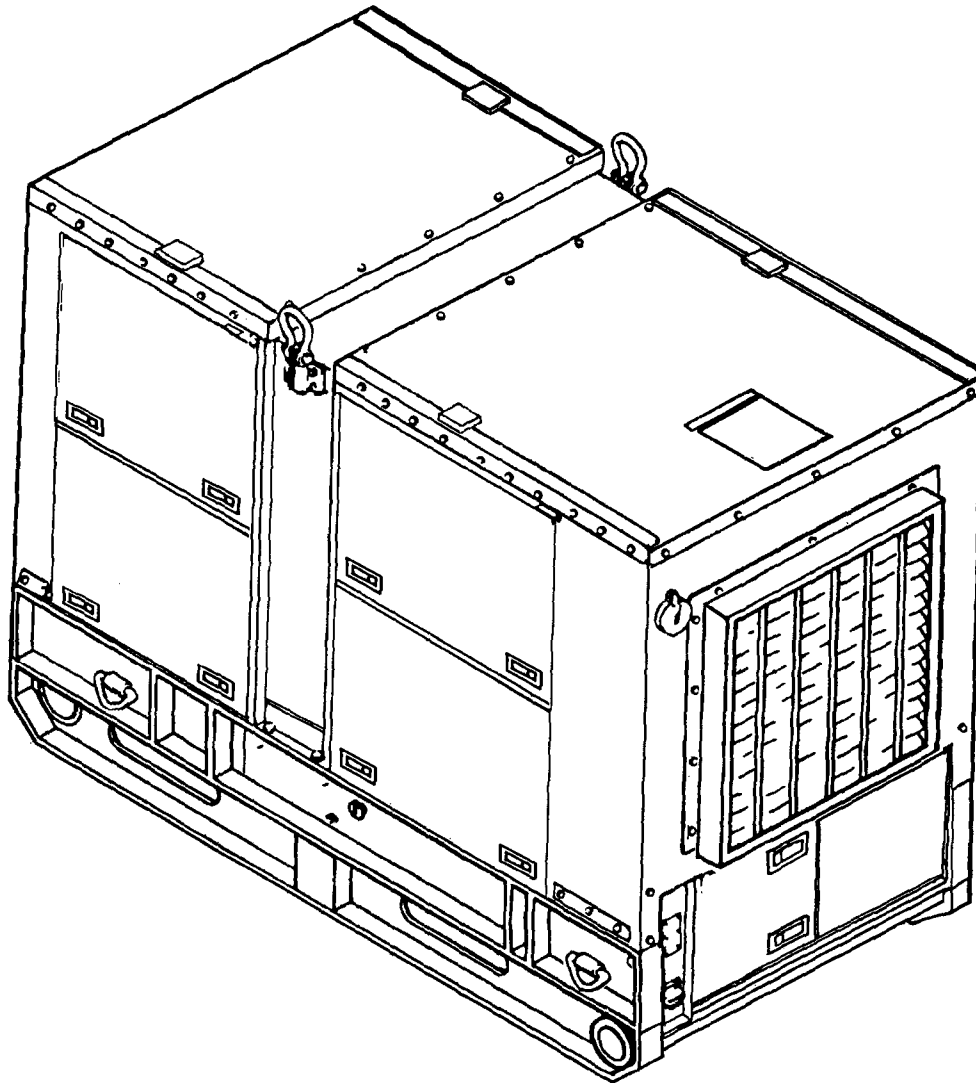

Figure 1-1. Engine Generator Set, Right-Front, Three-Quarter View
- a. General. The generator sets, models MEP-004A, MEP-103A, and MEP-113A (Figure 1-1 and Figure 1-3) are fully enclosed, self-contained, skid mounted, portable units. They are equipped with controls, instruments, and accessories necessary for operation as single unit or in parallel with one or more units of the same class and mode. Each set is equipped with engine oil pan heating elements and necessary connections for field installation of winterization kits. Lifting devices for hoisting the generator set are located at the top of the lifting frame and center support assembly. Tubular cross members, that will accept a chain, have been provided at the front and rear of the skid base assembly to permit towing for short distances. Mobility of the units may be obtained by mounting on trailers or equipping with a wheel mounting kit. To extend the capability of the generator sets, they have also been designed to accept and operate with the following optional kits:
- (1) Fuel Burning Winterization Kit (paragraph 5-3).
- (2) Electric Winterization Kit (paragraph 5-9).
- (3) Wheel Mounting Kit (paragraph 5-15)
- (4) Load Bank Kit (paragraph 5-20).
- (5) Applications Kit (paragraph 5-26).
- (6) Acoustic Suppression Kit (paragraphs 2-27 and 5-29).
- (7) Automatic Transfer Panel 50/60 Hz. Monitors 50/60 Hz primary power and automatically starts and transfers the load to a standby generator set in the event of abnormal primary power fluctuation or failure. Continues sensing primary power and upon satisfactory resumption, will return the load to the primary power source, shut-off and recycle the generator set to a standby condition. (See Appendix A for manual.)
- (8) Automatic Transfer Panel 400 Hz. Monitors 400 Hz power and automatically starts and transfers the load from an operating 400 Hz generator set to a like standby set in the event the operating set load contactor opens due to a faulty condition. (See Appendix A for manual.)
- (9) Remote Control Box. Permits starting and stopping of the generator set from a remote location. (See Appendix A for manual.)
- (10) Auxiliary Fuel Burning Winterization. Provides dependable external source of battery power for starting of the generator set in ambient temperatures from -25°F to -65°F. (See Appendix A for manual.)